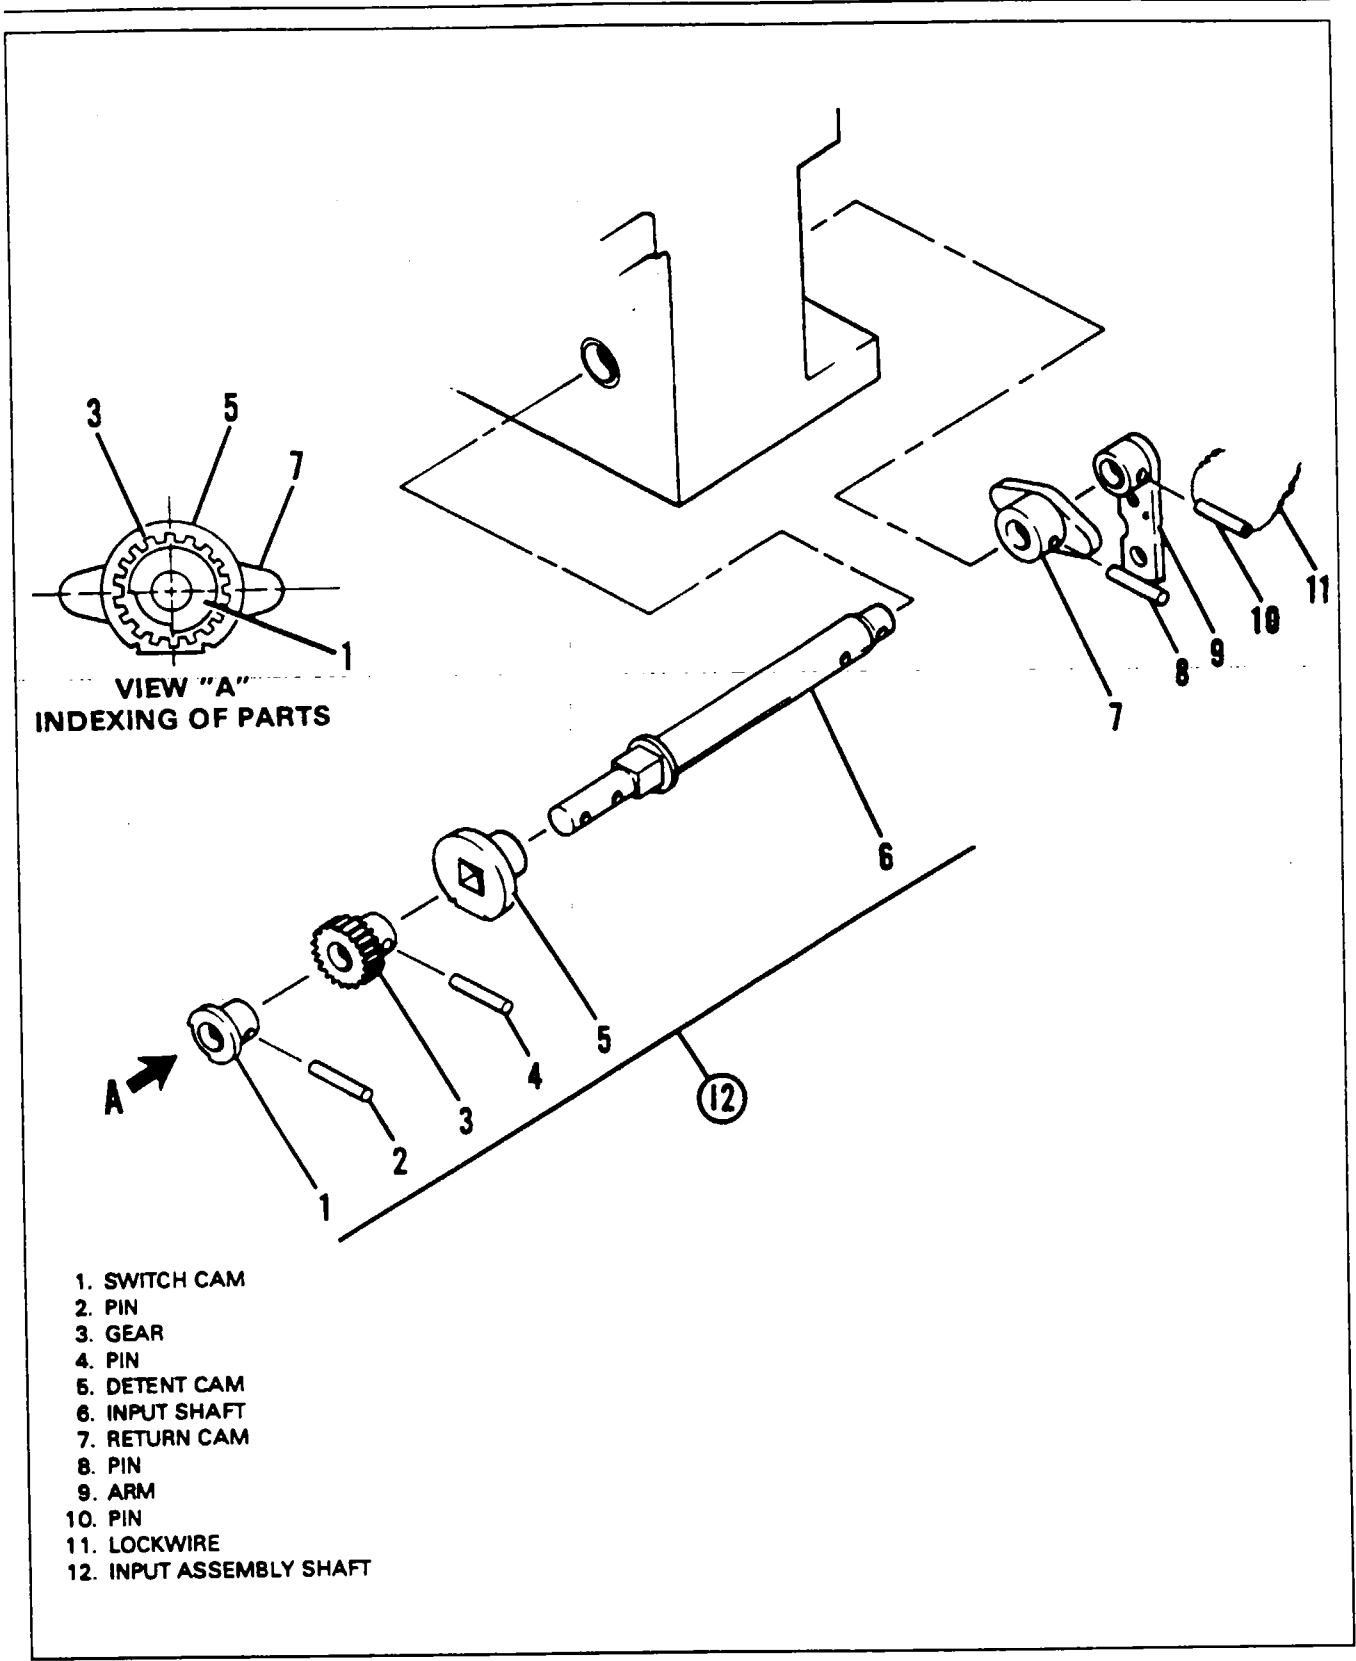

Figure 29-8. Power Pack Handle Release Mechanism - Wiebel
LANDING GEAR HANDLE-RELEASE MECHANISM. (Refer to Figure 29-8.)
POWER PACK HANDLE-RELEASE MECHANISM. (Refer to Figure 29-8.)
1. If the switch cam, the gear and the detent cam were removed from the input shaft, then the parts must be assembled and indexed as shown in Figure 29-8, View "A."
5. Install the Power Pack control arm on the end of the shaft with the arm pointing down. Align the holes between the shaft and the arm assembly and install the roll pin. Install .041 safety wire through the roll pin and around half of the arm. Pull the twisted end of the safety wire around the other half of the arm assembly. (Refer to Figures 29-8 and 29-9.)